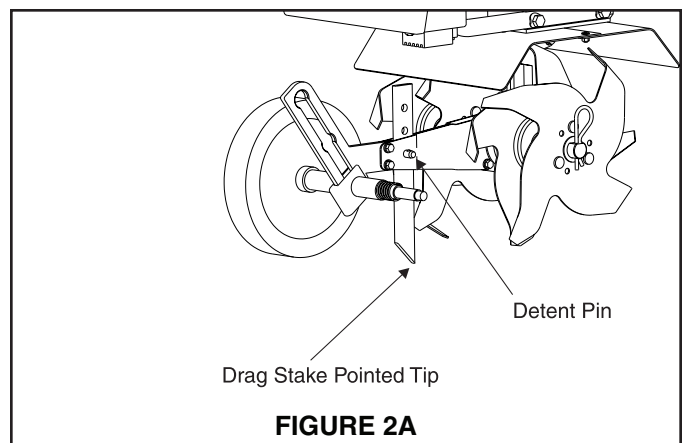

FIGURE 2A
4. The drag stake is shipped with point facing upwards. Before using, remove detent pin and turn the drag stake around so the point is directed in the downward position facing towards the tines. Re-insert detent pin. **SEE FIGURE 2A.**